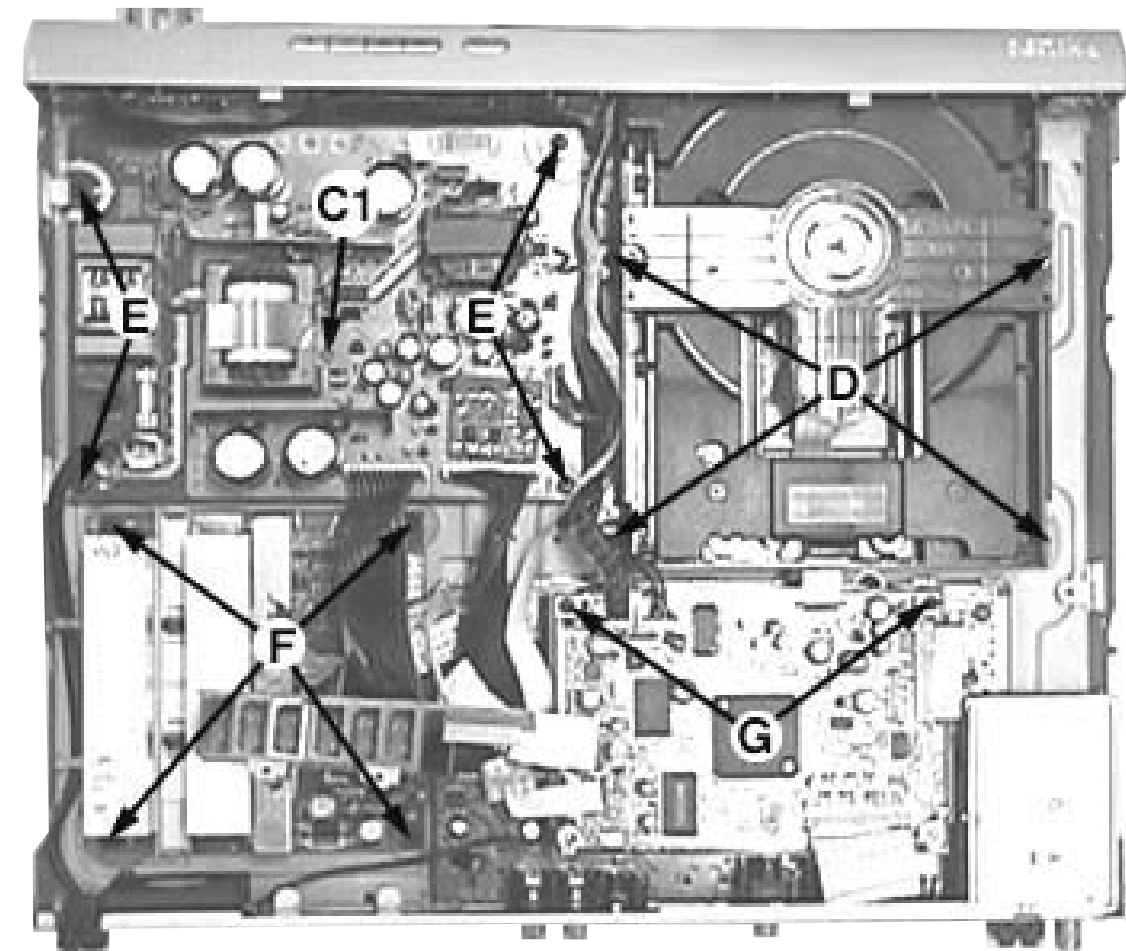

Figure 5
- 1) Loosen 4 screws E and uncatch C1 (see Figure 5) to remove the PSU Board (pos 1104).
- 2) Loosen 4 screws F (see Figure 5) to remove the Amplifier Board (pos 1107).
- 3) Loosen 2 screws G (see Figure 5) to remove the SD6.1 RX Board (1103-1001).